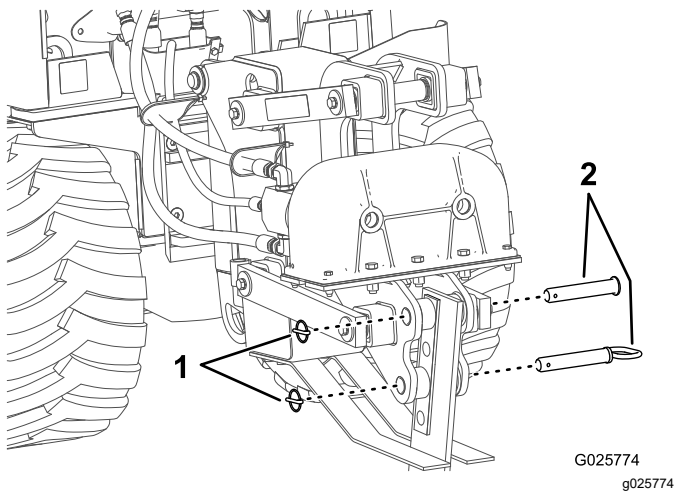

Figure 17
2. Flip the 2 circular snap rings over and remove the snap-ring pin (Figure 17).